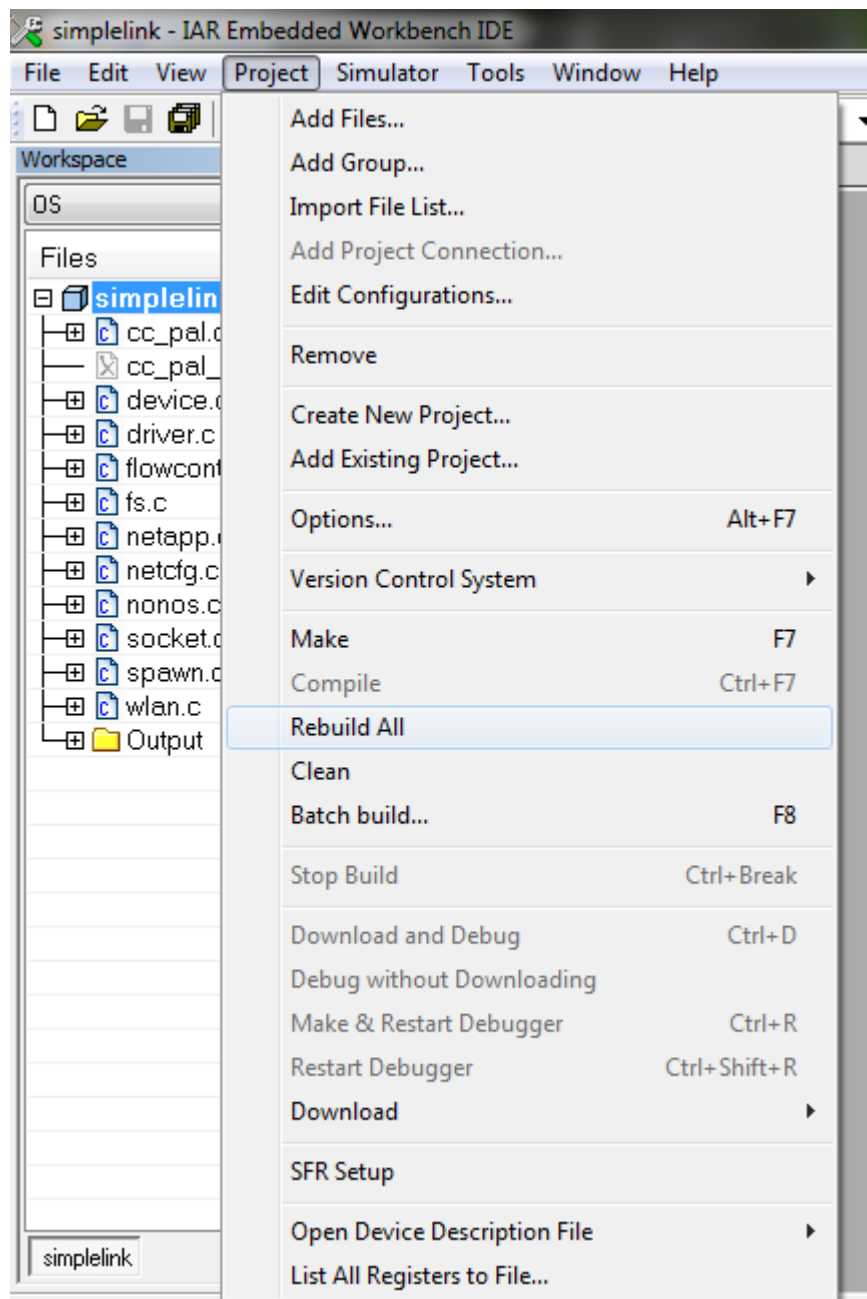

Figure 19. Rebuild the simplelink Project.
- Rebuild the simplelink project by selecting Project>Rebuild All from the menu, as shown in Figure 19.